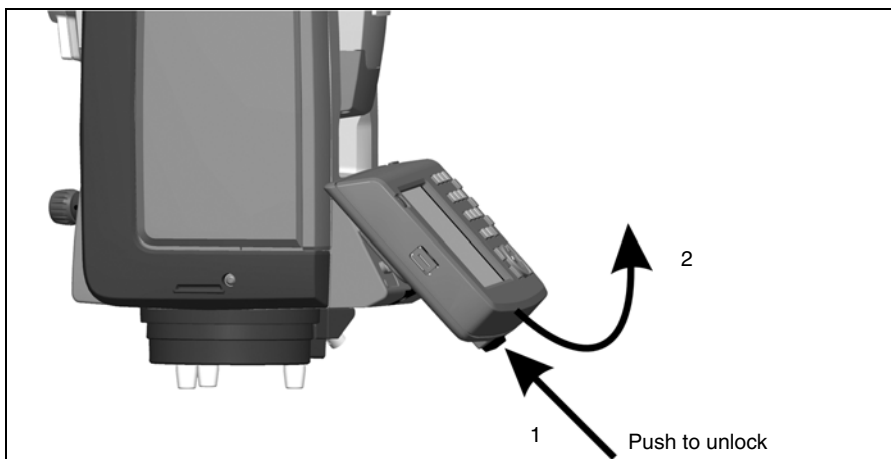

Figure 4.44 Detaching the Trimble CU
1. Push the lock release button on the bottom of the Trimble CU, Figure 4.44 (1)
2. Lift the bottom of the Trimble CU away from the instrument, Figure 4.44 (2)